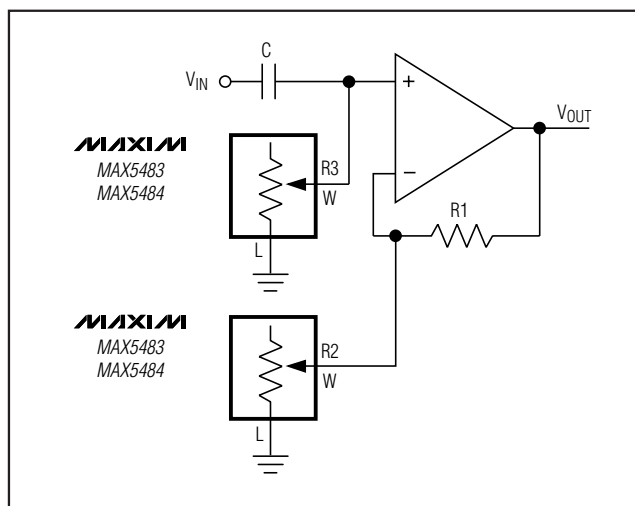

Figure 12. Programmable Filter
Figure 12 shows the configuration for a 1st-order programmable filter using two variable resistors. Adjust R2 for the gain and adjust R3 for the cutoff frequency. Use the following equations to estimate the gain (G) and the 3dB cutoff frequency (f_c):